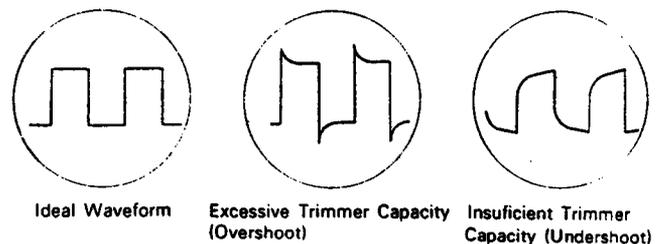

Fig. 11-2 V. ATT High-Frequency Response Compensation
- 1) Apply a 1 kHz square wave at approximately 50 mV, to the V. INPUT terminal. Set the V. ATT to 1 and the SWEEP RANGE to 100—1 kHz. Adjust the V. GAIN and SWEEP VARI/EXT GAIN for square wave amplitude of approximately 6 divs, and 2 ~ 4 cycles displayed. Check that the ideal waveform (as shown in Fig. 11-2) is displayed.
- 3) Set the V. ATT to 1/100 and increase the AG output level by 20 dB. Adjust TC102 for ideal waveform. Fig. 11-2 shows the relationship between waveform and trimmer capacity.